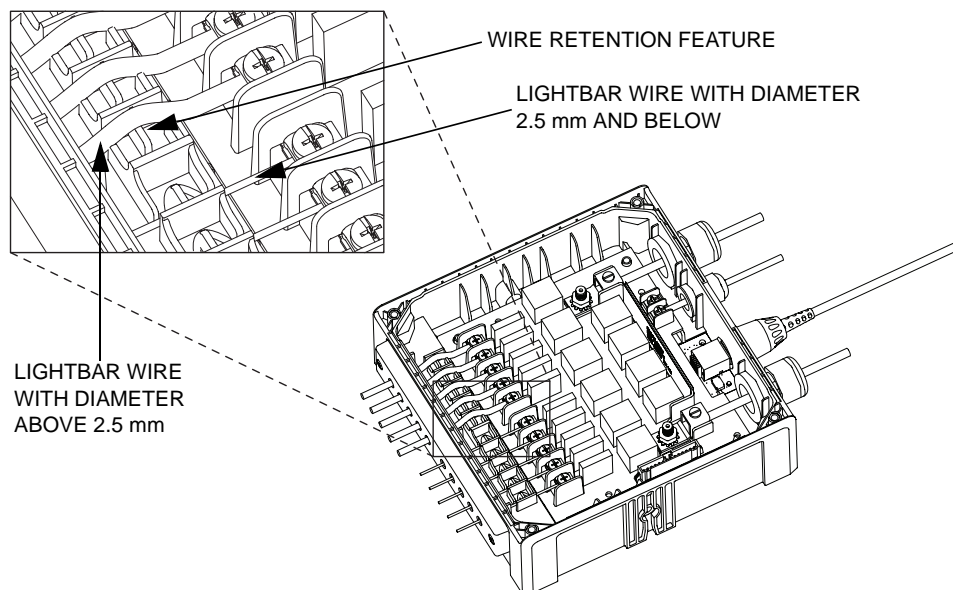

Figure 3-5. Wires Installation
3. Thin wires 2.5 mm and below should be dressed into the retention feature using a black stick (see Figure 3-5); thick wires above 2.5 mm should be routed above the retention feature. Strip off the wire until 7.94 mm (5/16") after the wire is inserted into the URC, and install the wire into respective lightbar terminal block.